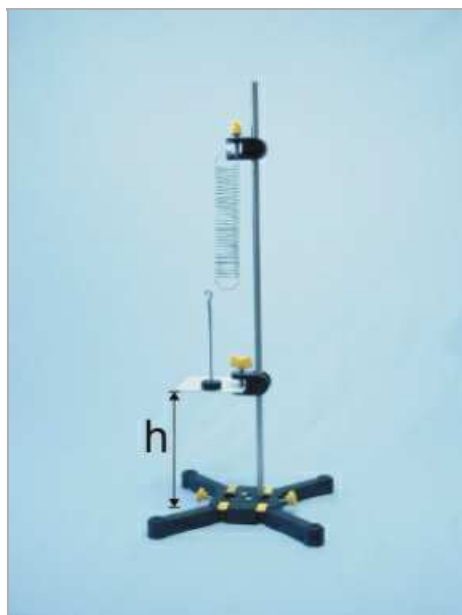

Fig. 12
- Attach the plate on the lower bosshead at height  $h$  which you determined for  $m = 10\text{ g}$  (Fig. 12).
- Shift the suspension point of the spring so that its bottom hook is just at the height of the weight holders hook (Fig. 12).